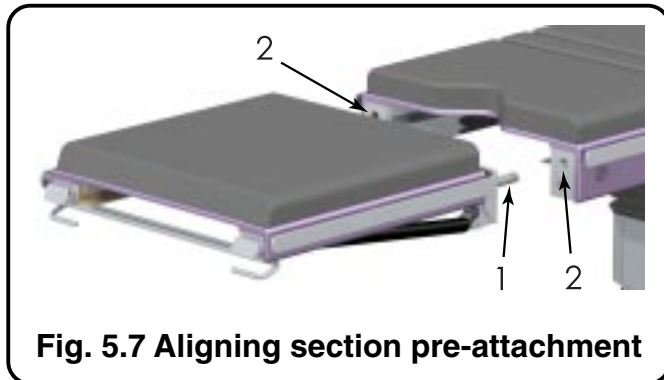

Fig. 5.7 Aligning section pre-attachment
To attach the removable tabletop sections (i.e. head, leg or infill) hold the section firmly with two hands, aligning the pins of the section (item 1, Fig. 5.7) with the location holes (item 2, Fig. 5.7) in the fixed tabletop section as shown in Fig. 5.7. **Do not** attach an infill section to another infill section.